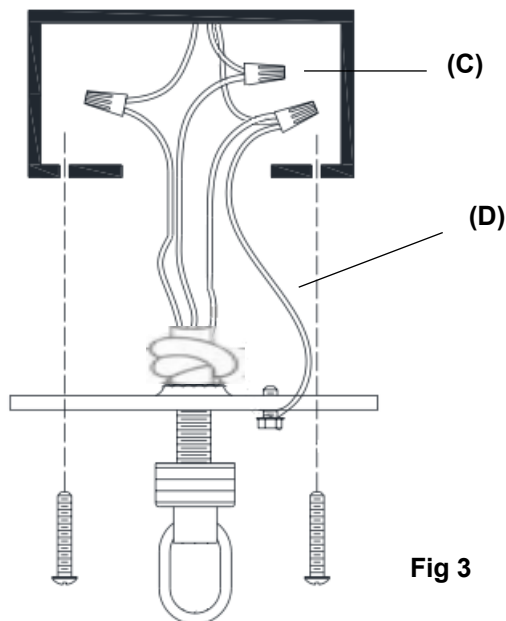

Fig 3
- d) With the help of another person to hold the weight of the fixture, attach the fixture wires to the junction wires as shown in Fig 3.
- e) Connect both the GROUND WIRE from the fixture and the Ground Pigtail Wire (D) to the GROUND JUNCTION BOX WIRE from the ceiling outlet junction box (J-box) (usually green insulation or bare wire). Fasten each together with a Plastic Wire Nut Connector (C) and wrap the connection with electrical tape. Ensure the other end of the Ground Pigtail wire is still wrapped around the Green Ground Screw and securely tightened with a screwdriver. **Be sure that no wire strands are exposed. IT IS IMPERATIVE THAT THE JUNCTION BOX IN YOUR HOME BE PROPERLY GROUNDED!**
- f) Connect the NEUTRAL FIXTURE WIRE to the NEUTRAL JUNCTION BOX WIRE (usually white insulation). Fasten each together with a Plastic Wire Nut Connector (C) and wrap the connection with electrical tape. Be sure that no wire strands are exposed.
- g) Connect the HOT FIXTURE WIRE to the HOT JUNCTION BOX WIRE (usually black insulation). Fasten each together with a Plastic Wire Nut Connector (C) and wrap the connection with electrical tape. Be sure that no wire strands are exposed. **DO NOT REVERSE THE HOT AND NEUTRAL CONNECTIONS OR SAFETY WILL BE COMPROMISED**